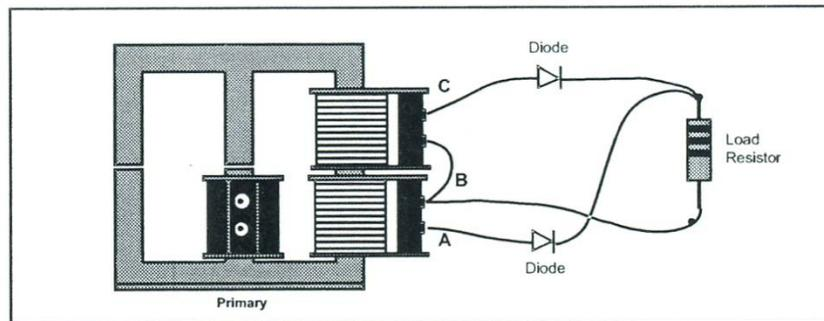

Fig. 8: secondary circuit with load resistor and full-wave rectifier.
32. Set up the secondary circuit for a full wave rectifier with 100  $\Omega$  load resistance shown in Fig. 8. Adjust  $V_p$  to 2 volts.